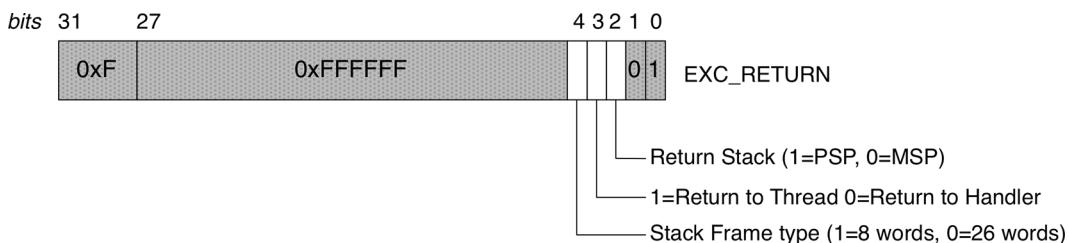

Figure 24.5: How the `EXC_RETURN` value is interpreted
**Figure 24.5** shows the complete structure of the `EXC_RETURN` value. As you can see, the third bit indicates which stack was used at the time the fault condition triggers. This clearly explains the usage of the `tst` instruction in the previous assembly code to detect the used stack.